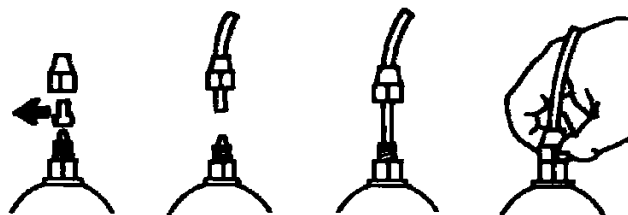

Fig. 7
- e. Slide out the two red protection capsules from the fittings; insert the piping all the way onto the conical attachments and lock them using the fixing rings (Fig. 7).